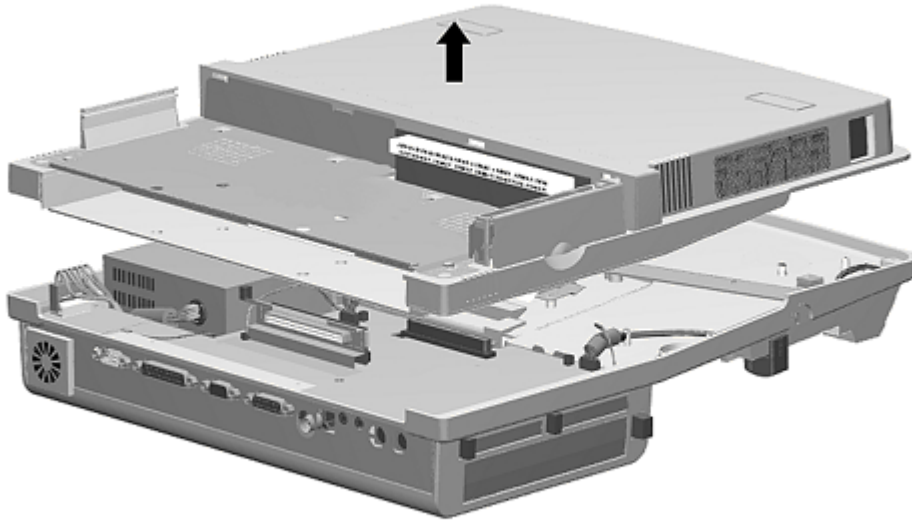

Figure 7-12. Removing the Bottom Cover
5. Lift the bottom cover off the expansion base (Figure 7-12).